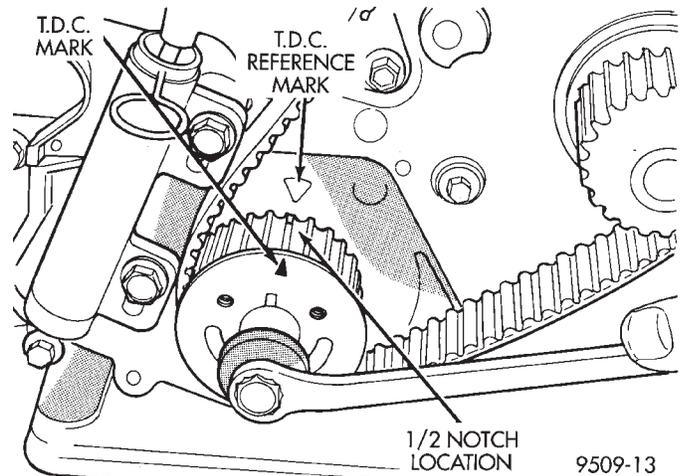
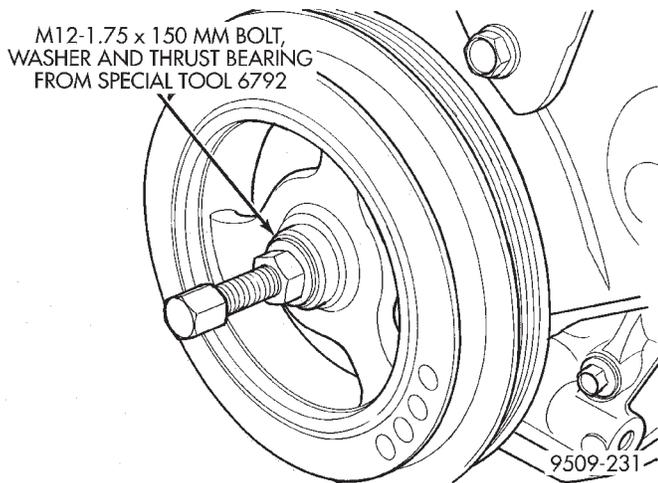
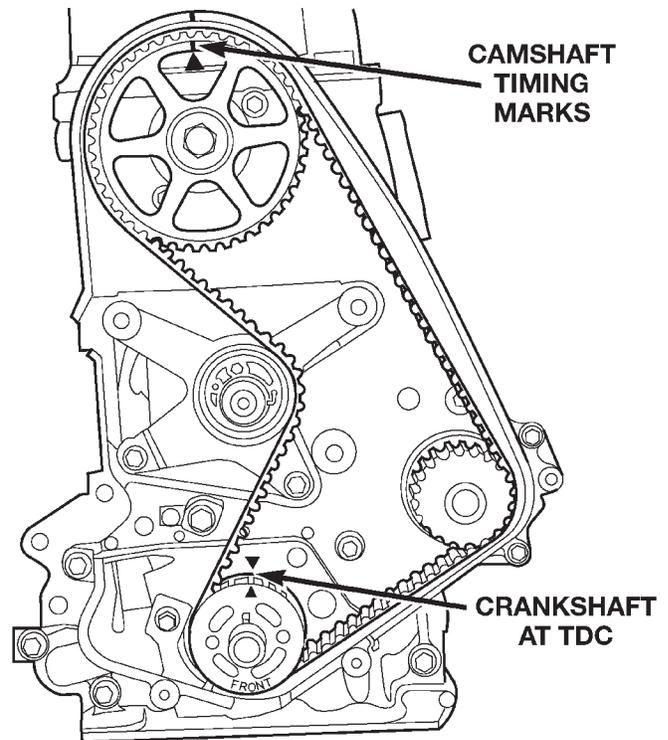

Fig. 37 Adjusting Crankshaft Sprocket for Timing Belt Installation
Fig. 39 Crankshaft Damper—Installation
Fig. 50 Crankshaft and Camshaft Timing
(6) Move crankshaft to 1/2 mark before TDC (Fig. 37) for belt installation.
(7) Install timing belt. Starting at the crankshaft, go around the water pump sprocket and then around the camshaft sprocket.
(14) Install crankshaft damper using M12-1.75 x 150 mm bolt, washer, thrust bearing and nut from Special Tool 6792. Install crankshaft damper bolt and tighten to 142 N·m (105 ft. lbs.) (Fig. 39).
(15) Install accessory drive belts. Refer to Group 7, Cooling System Accessory Drive section for procedure.
(16) Perform camshaft and crankshaft timing relearn. Refer to Group 25, Emission Control Systems for procedure.
(3) Move crankshaft to 1/2 mark before TDC (Fig. 37) for belt installation.
(4) Install timing belt. Starting at the crankshaft, go around the water pump sprocket and then around the camshaft sprocket.
(5) Move crankshaft sprocket to TDC to take up belt slack.
(6) Remove the pin or 1/8" or 3 mm Allen wrench from belt tensioner.
(7) Rotate crankshaft 2 revolutions and check the alignment of the timing marks (Fig. 50).
(8) Install front half of timing cover.
(9) Install engine mount bracket.
(10) Install Right engine mount. Refer to procedure outlined in this section.
(11) Remove jack from under engine.
(12) Install crankshaft damper using M12-1.75 x 150 mm bolt, washer, thrust bearing and nut from Special Tool 6792. Install crankshaft damper bolt and tighten to 142 N·m (105 ft. lbs.) (Fig. 39).
(13) Install accessory drive belts. Refer to Group 7, Cooling System Accessory Drive section for procedure.
(14) Raise vehicle on hoist and install right inner splash shield.
(15) Perform camshaft and crankshaft timing relearn procedure as follows: